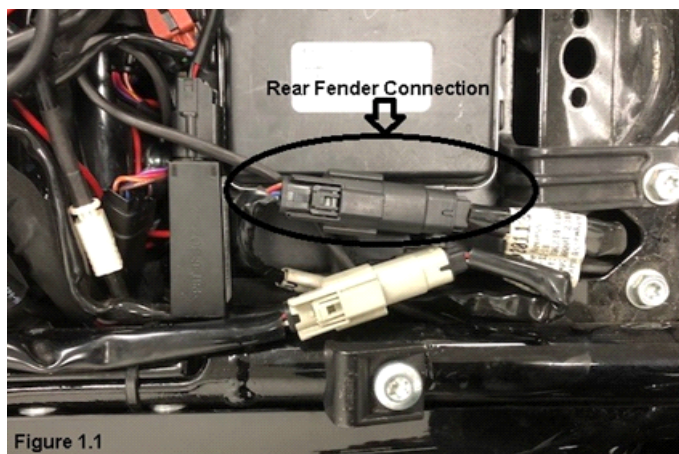

Figure 1.1
9. Remove seat and install the Tour Pack Y Harness between the main harness and the rear fender harness. Refer to Figure 1.1 and Table 1 for location.